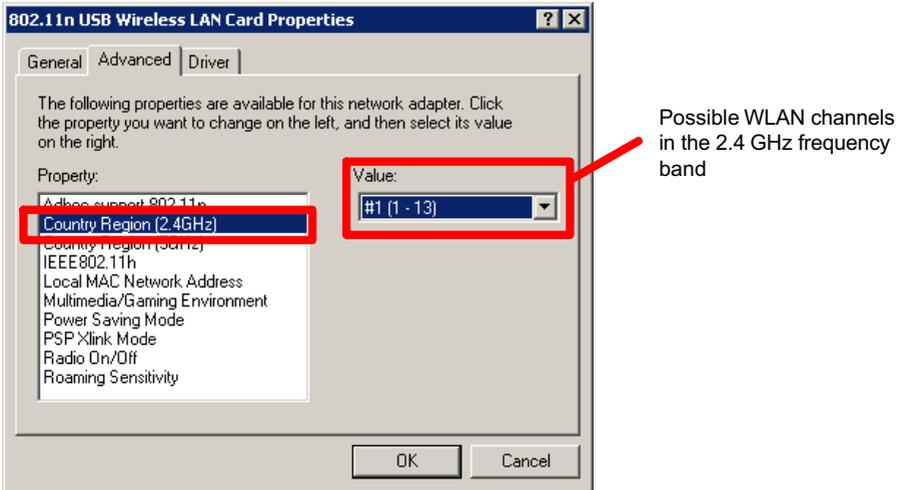

Fig. 7.4 Setting permissible WLAN channels
6. Go to the **Advanced** tab and set the channels available for your country under **Country Region** (Fig. 7.4). The range data for the possible channels can be greater than for the channels permitted, see table below.